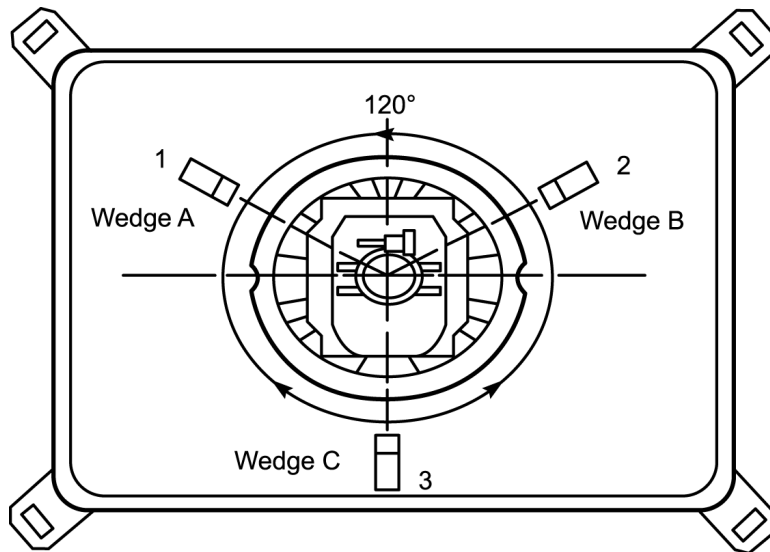

Fig. 11
1. Wedge A, B and C should be inserted following the sequence of 1, 2 and 3 shown in Fig. 11.